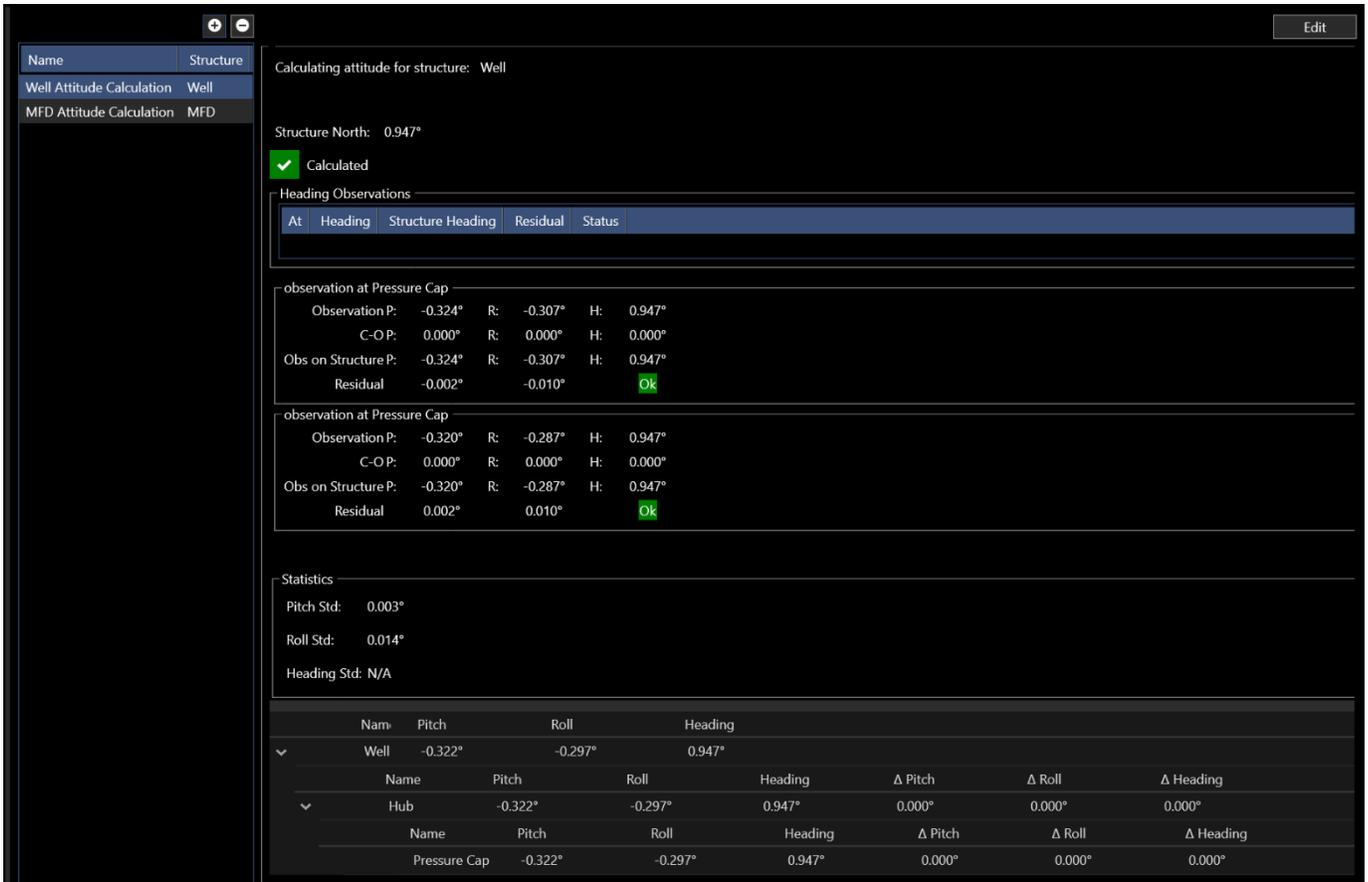

FIGURE 83 ATTITUDES CALCULATIONS – CALCULATED ATTITUDE AT STRUCTURE RESULTS
5. Click Finish. The Attitude Calculation is added to the list and available to display results, see Figure 83.